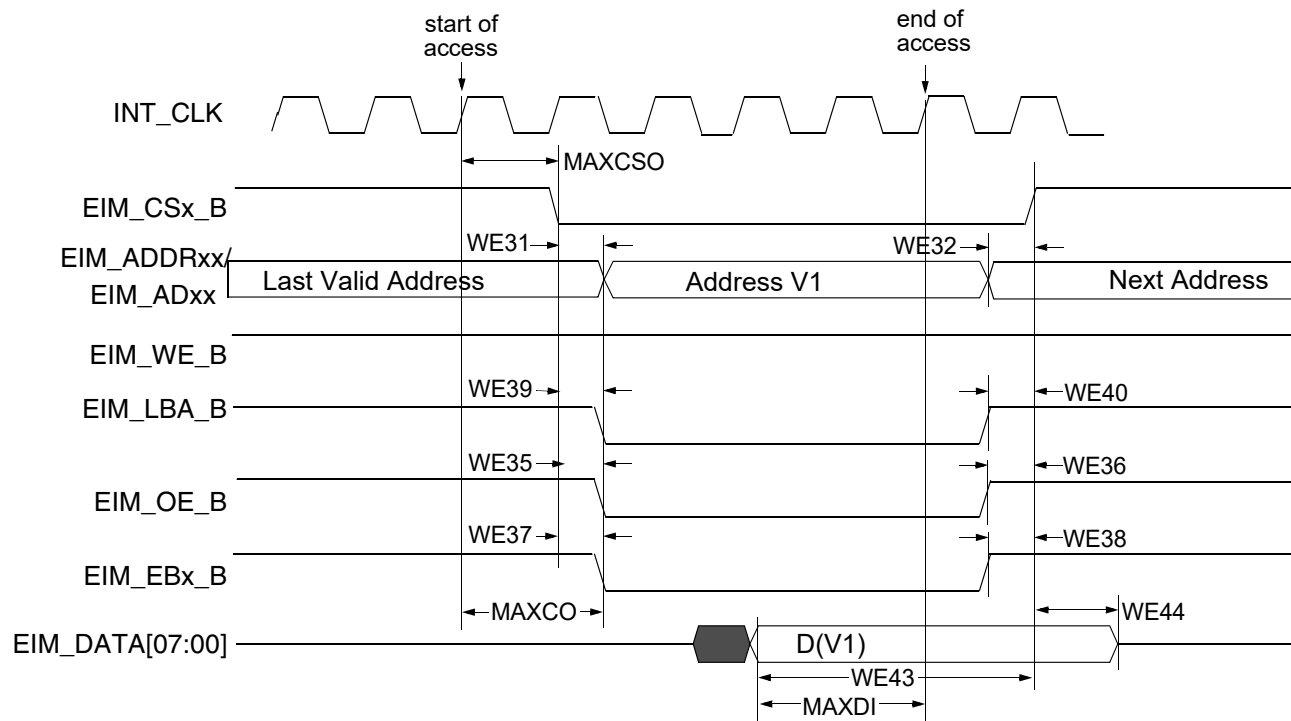

Figure 16. Asynchronous Memory Read Access (RWSC = 5)
Figure 16 through Figure 20 and Table 38 provide timing parameters relative to the chip select (CS) state for asynchronous and DTACK EIM accesses with corresponding EIM bit fields and the timing parameters mentioned above.
Asynchronous read and write access length in cycles may vary from what is shown in Figure 16 through Figure 19 as RWSC, OEN & CSN is configured differently. See the i.MX 6DualPlus/6QuadPlus reference manual (IMX6DQPRM) for the EIM programming model.